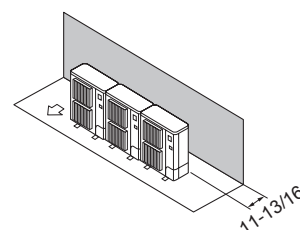

Fig. 2-12
① Obstacles at rear (Fig. 2-12)